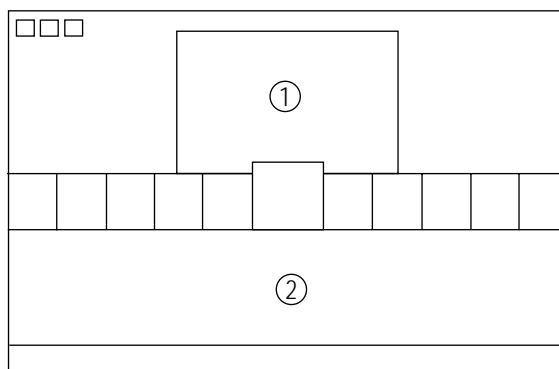

Fig. 4-4
Set SCT to  $40 \pm 5$  fL in the Factory Service Mode with using CA100. (See Fig. 4-4 ①)
Set SBT to  $1.5 \pm 0.2$  fL in the Factory Service Mode with using CA100. (See Fig. 4-4 ②)